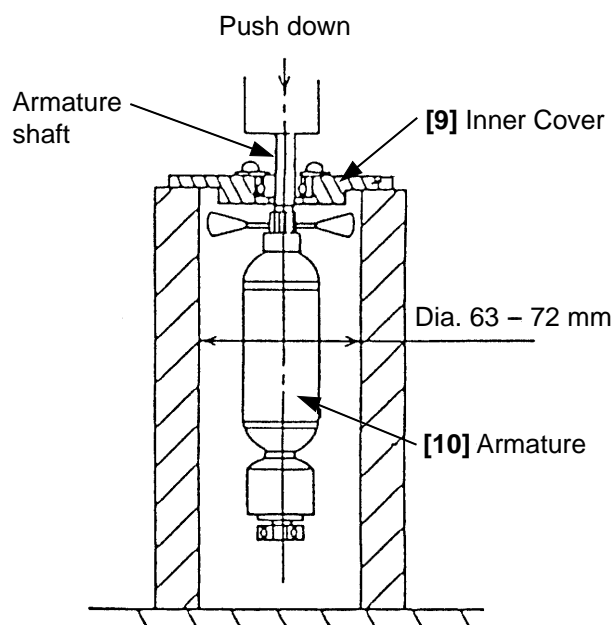

Fig. 4
- (1) Loosen the Machine Screw (W/SP. Washer) M5 x 16 **[26]** and remove the Wheel Guard Ass'y **[28]**.
- (2) Remove the Brush Caps **[40]**, and take out the Carbon Brushes **[41]**.
- (3) Loosen the Tapping Screws D5 x 25 **[1]**, and remove the Gear Cover Ass'y **[4]**. Separate the Inner Cover **[9]** from the Housing Ass'y **[36]** with a flat-blade screwdriver, and remove the Inner Cover **[9]** together with the Armature **[10]**.
- (4) Holding the Armature **[10]**, loosen the Special Nut M7 **[5]** with a wrench, and remove the Pinion **[6]**.
- (5) Support the Inner Cover **[9]** with a tubular jig (inner diameter 63 – 72 mm is recommended), and push down on the armature shaft with a hand press to remove the Armature **[10]**. (See Fig. 4.)